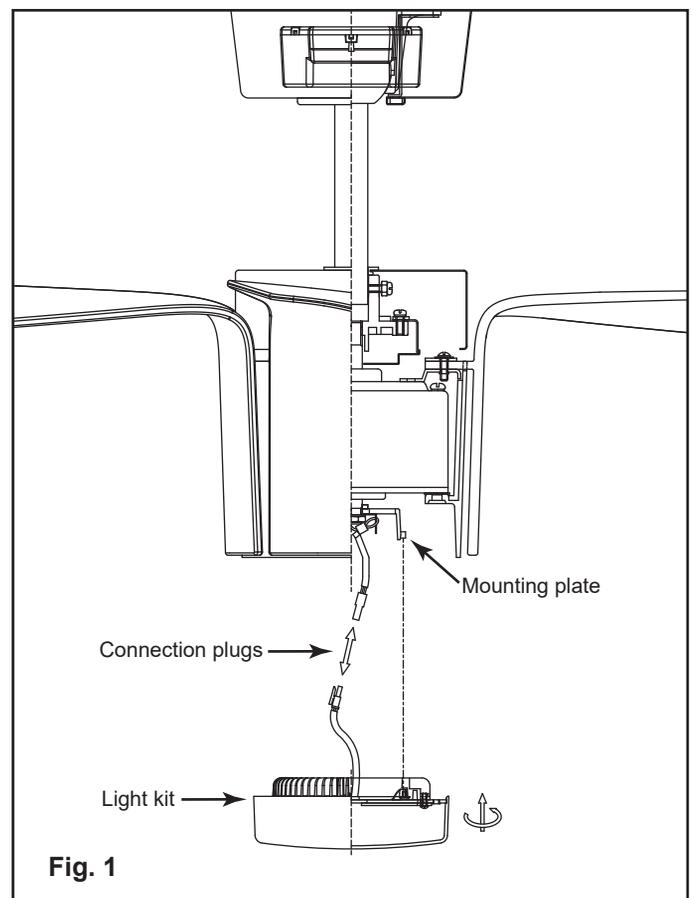

Fig. 1
1. While holding the LED light kit under the fan motor assembly, make the 2-pin wire connections: (Fig. 1)